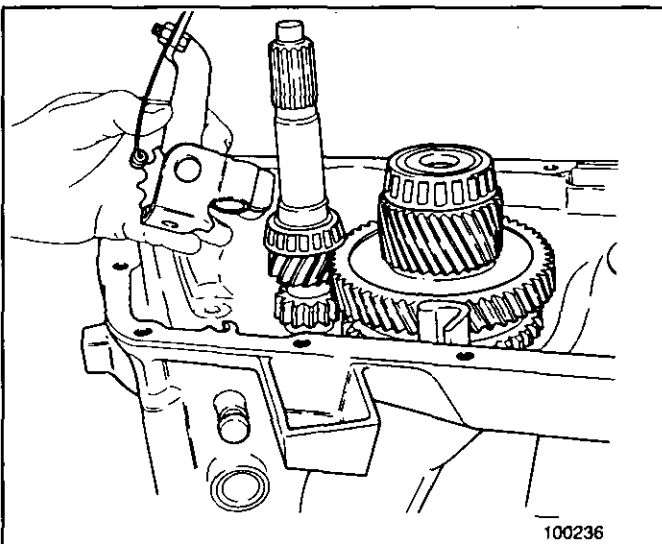

Figure 13 Removing Interlock Assembly
5. Remove the detent shift lever and interlock assembly. Leave shift forks engaged with the synchronizers as shown in Figure 13. Do not remove detent spring.